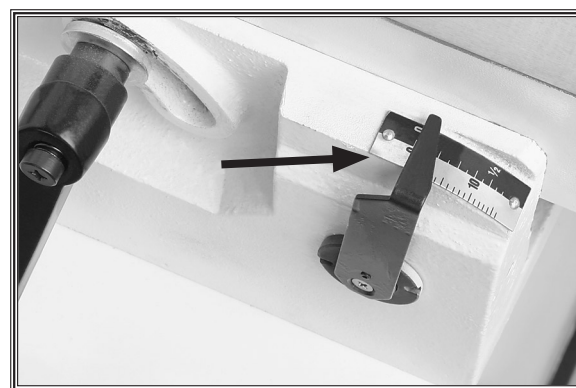

Figure 59. Depth scale adjusted to "0" position.
4. Using a screwdriver, adjust the scale pointer to "0" (**Figure 59**), then reset the infeed table positive stops.